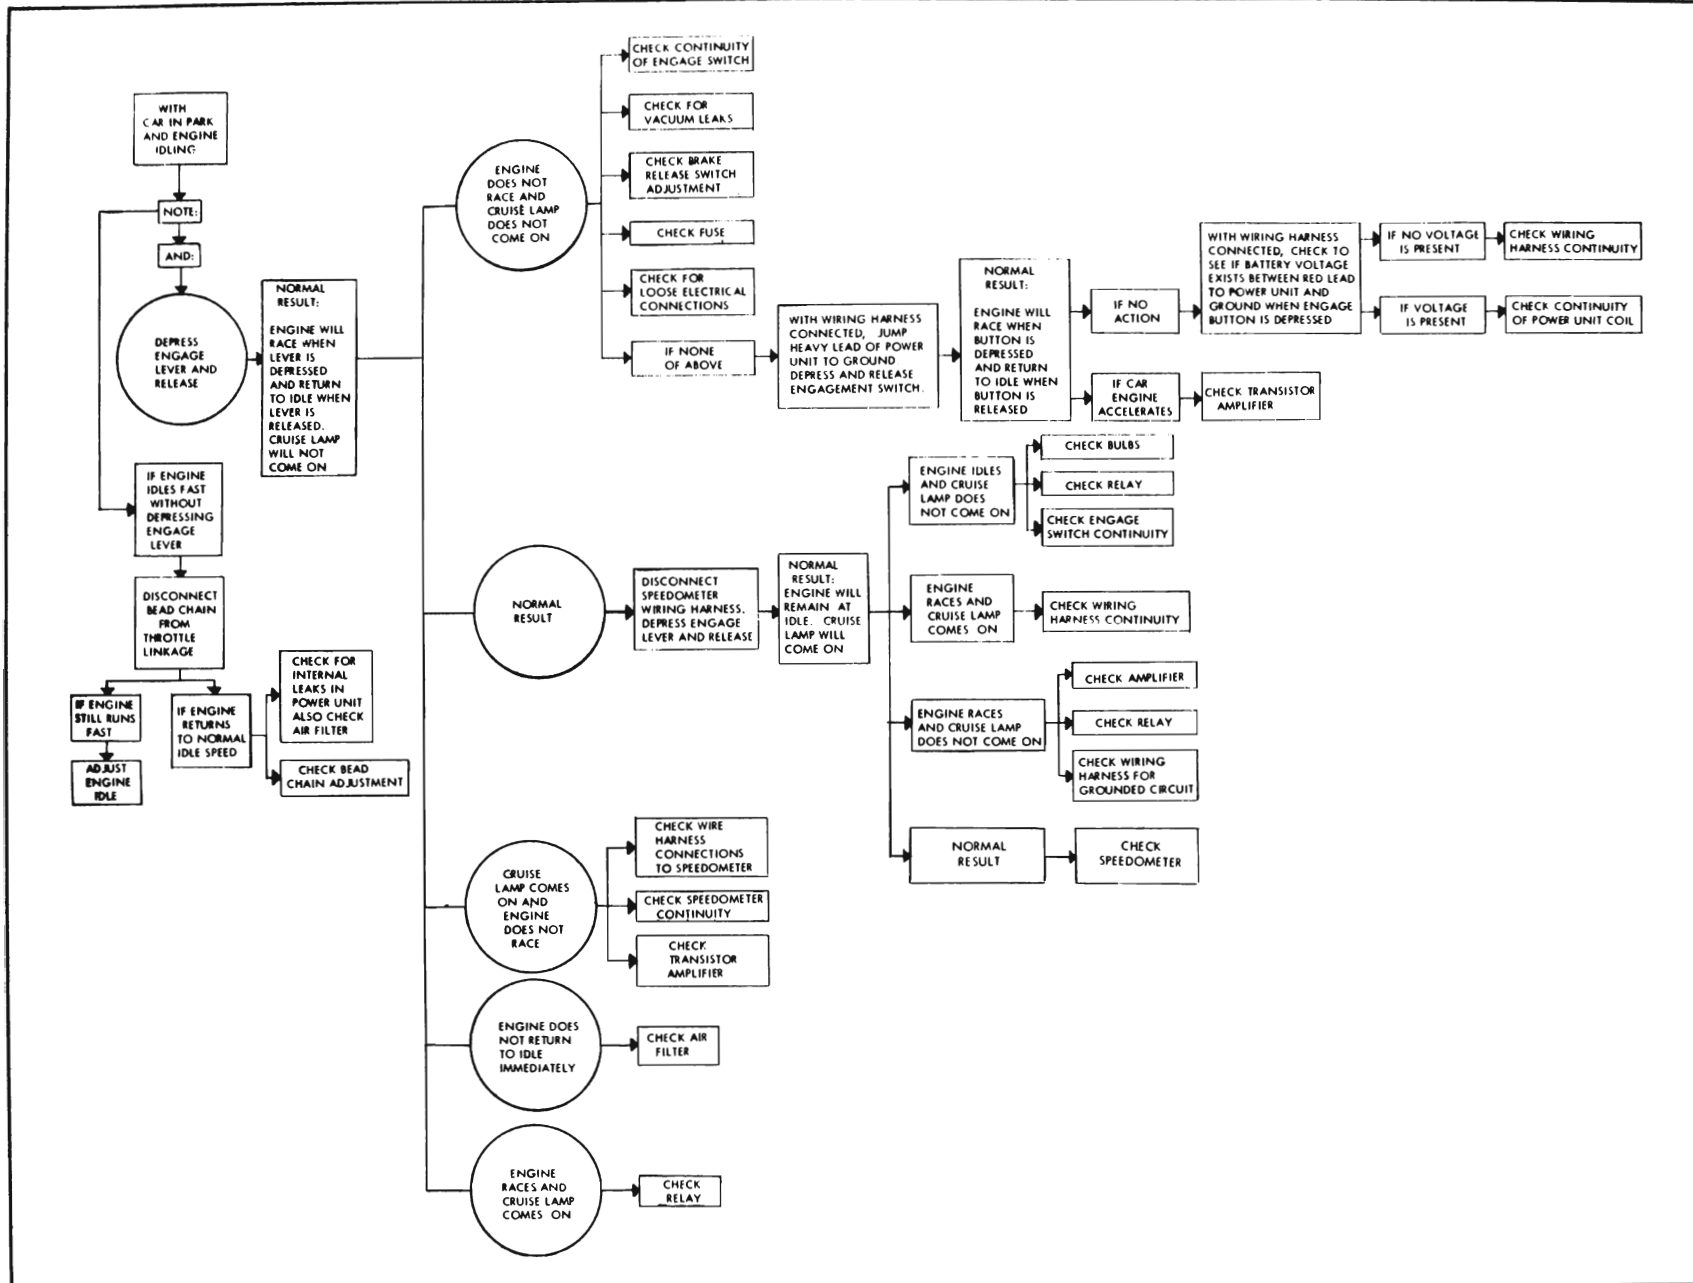

Figure 11-193—Electro-Cruise Trouble Diagnosis Test Procedure Chart
Whenever a specific complaint is encountered with the Electro-Cruise system, the Trouble Diagnosis Chart (Page 11-153) should be used for reference as to the complaint and its possible cause. Whenever a general complaint is encountered, the Trouble Diagnosis Test Procedure Chart (Figure 11-193) should be used to determine the area of malfunction. Since the procedures outlined in this chart are performed with the car stationary, it may be necessary, in some cases, to road test the system to determine the specific complaint.
1. The first method is to substitute a known good amplifier and perform the procedure outlined in the Trouble Diagnosis Test Procedure chart, Figure 11-193 or road test the car to determine whether or not the condition has been corrected.